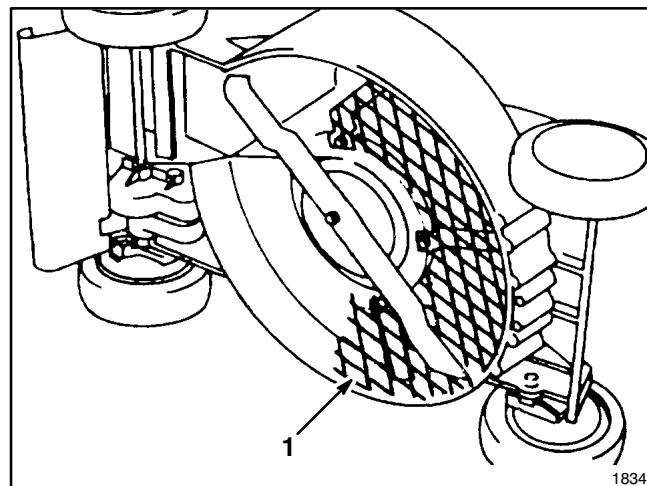

Figure 39
2. Leaf Shredder Kit, Model No. 59180—Installs on underside of mower in minutes without requiring removal of blade. Shreds leaves into small pieces for clean vacuuming into grass bag and convenient disposal (Fig. 39).